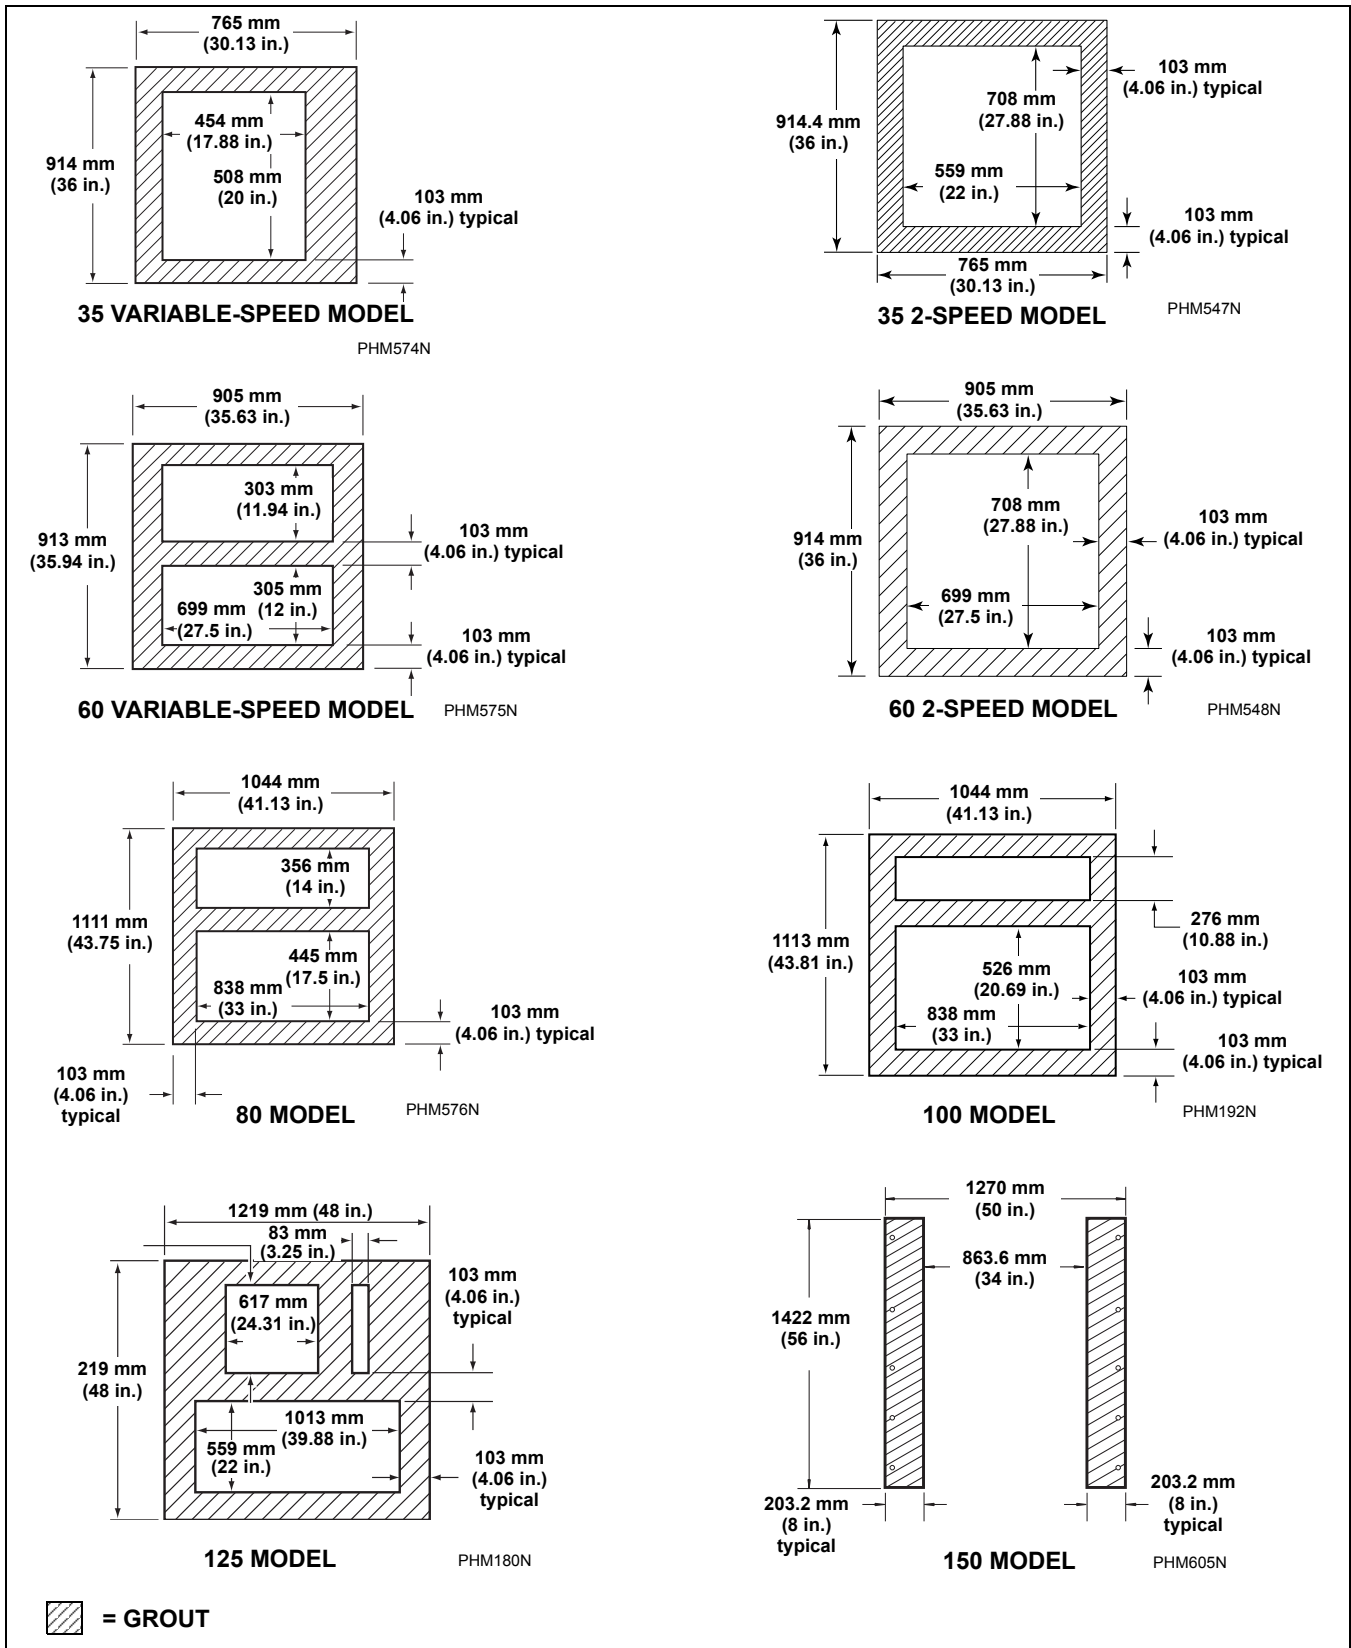

Figure 6
5. Fill the space between the machine base and the floor with a good quality **non-shrinking machinery precision grout** to ensure a stable installation. Grout completely under all frame members. (Remove front panel and back panel to gain access to **all** frame members.) Refer to *Figure 6*. Force grout under machine base until all voids are filled.